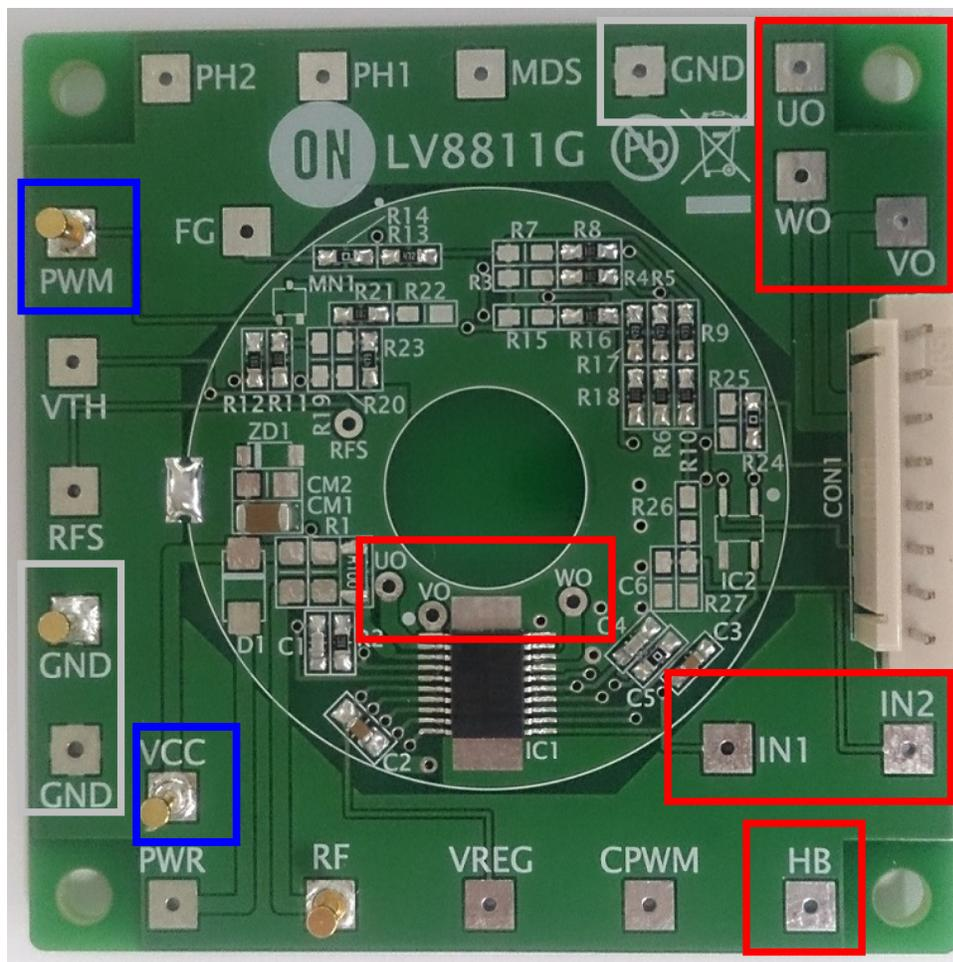

Figure 2. Key Input/Output Highlighted
step 2. Connect PWM signal to PWM pin of the board. The connection points, described in step 1 and 2, are shown in figure 2 and 3.